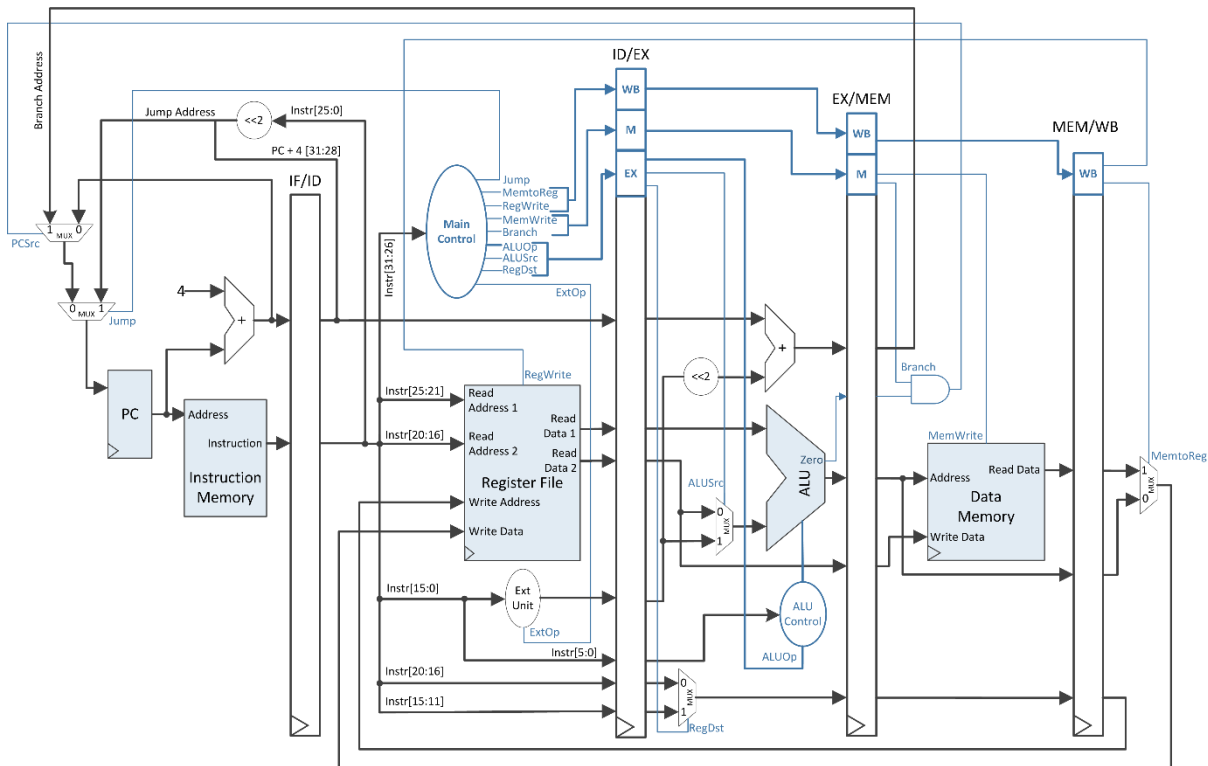

Figure 9.5: MIPS 32 Pipeline Data-Path + Control, obtained from the partitioning of the Single-Cycle Data-Path
The data-path together with the control unit for the pipelined MIPS 32 CPU is presented in Figure 9.5.
Use the data-path from Figure 9.5 (!) but keep in mind your MIPS 16 processor's features: 16 bits, not 32; based on your own chosen instructions the data-path may contain additional elements.
*Attention:* When introducing the new pipeline registers, some small modifications in your functional units may appear. You will easily identify these modifications by carefully studying Figure 9.5 and the particular data-paths for each functional unit of the MIPS 16 processor – laboratories 5, 6, 7, 8. For example, the ID unit needs an additional input port for the write address of the Register File, address that will come from the last pipeline register MEM/WB.